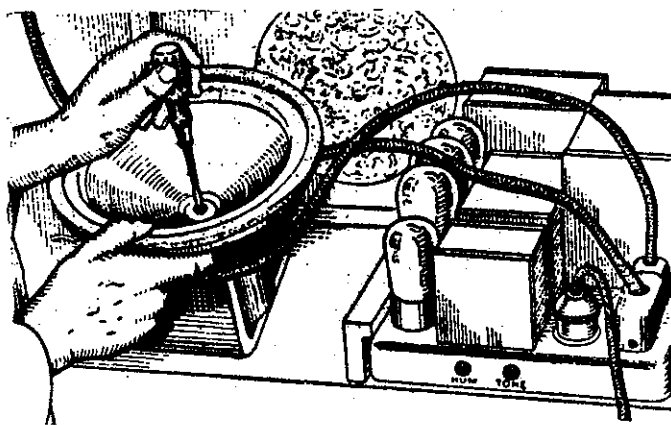

FIGURE 13- CENTERING CONE IN ELECTRO DYNAMIC REPRODUCER.
- d. Loosen the center screw as shown in Figure 13, and then re-tighten it.